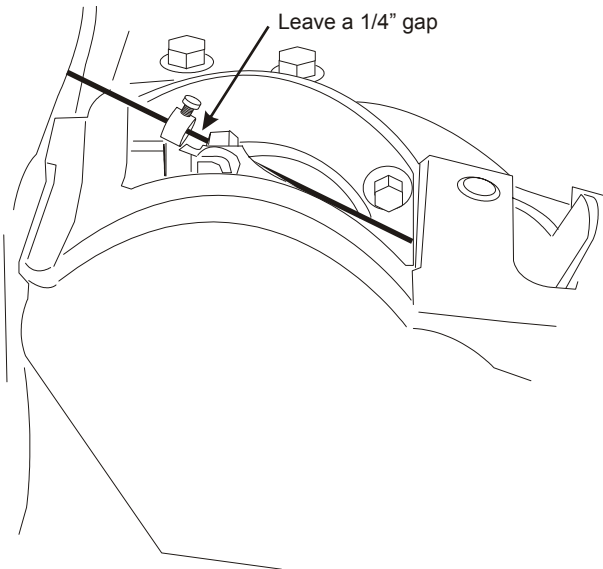

Figure 4.7
- ☐ Install the cable nipple on the throttle cable. Pull the throttle cable snug and slide the nipple up the cable until it contacts the pull bracket, but not so tight that the throttle is prevented from returning to base idle. Tighten the setscrew on the cable nipple, leaving a 1/4 inch gap between the pull bracket swivel and the cable nipple (Figure 4.7).
- ☐ Cut out a section of the throttle arm plastic cover to allow for movement of the throttle pull (Figure 4.7).